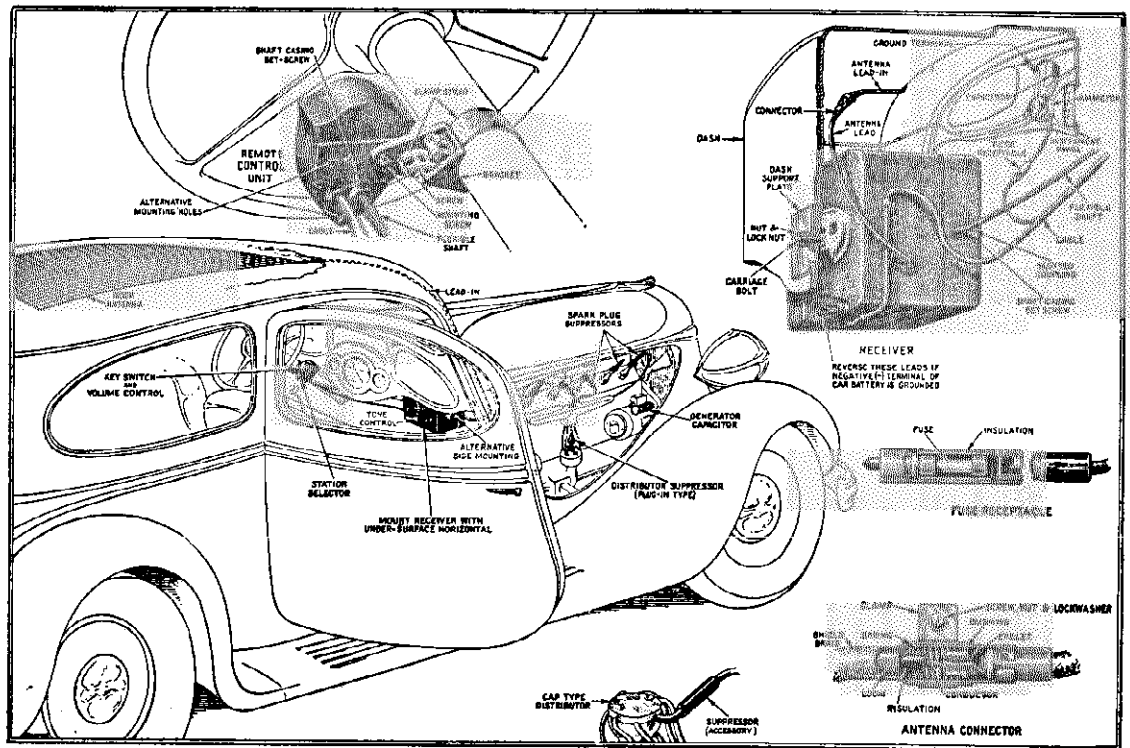

Figure 1
3. CHECK POLARITY OF AUTOMOBILE STORAGE BATTERY SUPPLY. If the negative (-) side is grounded to car frame, make changes to chassis connections shown in Figure 1. Do not disturb these connections if positive (+) side is grounded. (See details under "Mounting of Units"—page 5.) Replace case cover.
4. Determine most satisfactory mounting position (see details under "Location of Units"—page 4); spot mounting-bolt location and drill  $\frac{1}{2}$ " diameter hole. Insert bolt through dash and assemble support plate and nuts on engine side. Hang receiver over bolt head and tighten nuts. (See Figure 1 and details under "Mounting of Units"—page 5.)
5. Attach remote control unit to steering column by means of mounting bracket and strap. (See Figure 1 and details under "Mounting of Units"—page 5.)
6. Assemble flexible shaft to receiver and remote control unit. (See Figure 1 and details under "Mounting of Units"—page 6.)
8. Connect terminal at end of black lead from cable to binding-post of automobile ammeter (see Figure 1 and details under "Connections"—page 7). The ignition by-pass capacitor (equipped with two leads) should be installed at this time. (See Figure 1 and paragraph 4 under "Suppression of Ignition Interference"—page 7.)
9. Install spark-plug and distributor suppressors; also generator by-pass capacitor (see Figure 1 and paragraphs 1, 2 and 3 under "Suppression of Ignition Interference"—page 7).
Details of mounting the various units are shown in Figure 1. The following procedures are recommended:
**NOTE**—At this point, it will be advisable to determine the electrical polarity of the storage battery supply. This may be done most conveniently by making an examination of the battery connections and ascertaining which terminal is grounded (that is, connected to the frame of the car). The positive terminal is usually marked (+) and tends to form corrosion far more rapidly than the negative (-). If the positive terminal is grounded, no change in the electrical connections of the receiver unit will be required. However, if the opposite is true, the two leads (equipped with spade terminals) located beneath the radio chassis as shown in Figure 1 must be reversed.
**Remote Control Unit**—In attaching the remote control unit to the steering column of the car, it will be advisable first to examine the detailed view (in Figure 1) showing the assembly of its mounting bracket. Four small holes are contained in the associated flexible strap at distances proper for use with steering columns of the most common diameters (1 1/2, 1 3/4, 1 7/8 inches) but the strap length will be found sufficient to permit the insertion of additional holes if necessary to accommodate a 2 inch column. The proper hole may be determined by wrapping the clamp strap tightly around the column, inserting the machine screw furnished through that hole found to be nearest in alignment with the tapped hole in the clamp bracket. Three tapped holes are provided in the back of the remote control unit, permitting support of that unit either at the right- or left-hand side or above the steering column.
**Receiver and Remote Control Units**—The arrangement of units shown in Figure 1 is recommended and will be found applicable to the majority of automobiles. Consideration should be given to the possibility of interference of the receiver with other equipment beneath the instrument panel or of the mounting bolt with apparatus on the engine side of the dash. By placing the receiver unit toward the right-hand side of the dash, the flexible shaft will be of correct length as furnished in practically all cases. This position, however, may be considered impractical because of its universal preference for heating devices, necessitating installation of the receiver unit either near the center or at the extreme left-hand side of the dash and the use of a shorter flexible shaft. In such cases, the shaft may be cut to shorter
1. Disconnect all wires from the spark plugs. Fasten one spark plug suppressor to the top of each plug and re-attach the wires to the free ends of the suppressors. These suppressors may be mounted either in line with or at right angles to the plugs (as shown in Figure 1) in order to avoid interference with metallic parts grounded to the engine or frame.
Refer to the detailed view of the antenna connector shown in Figure 1 and proceed to attach the lead-in wire (if shielded) as follows: First, cut the end of the lead-in so that the internal insulated wire and loom (if present) are flush with the end of the shield covering and push back the shield approximately 1 1/2 inches. Cut the loom to the end of the
Refer to Figure 1 and make connections as follows: